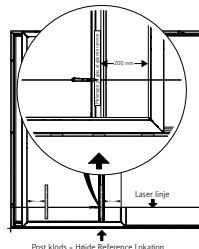

Figure 10: Laser position 2
15. Move the sash so the tape aligns with the mullion (center), and mark the laser line on the tape on both sides (figure 10).